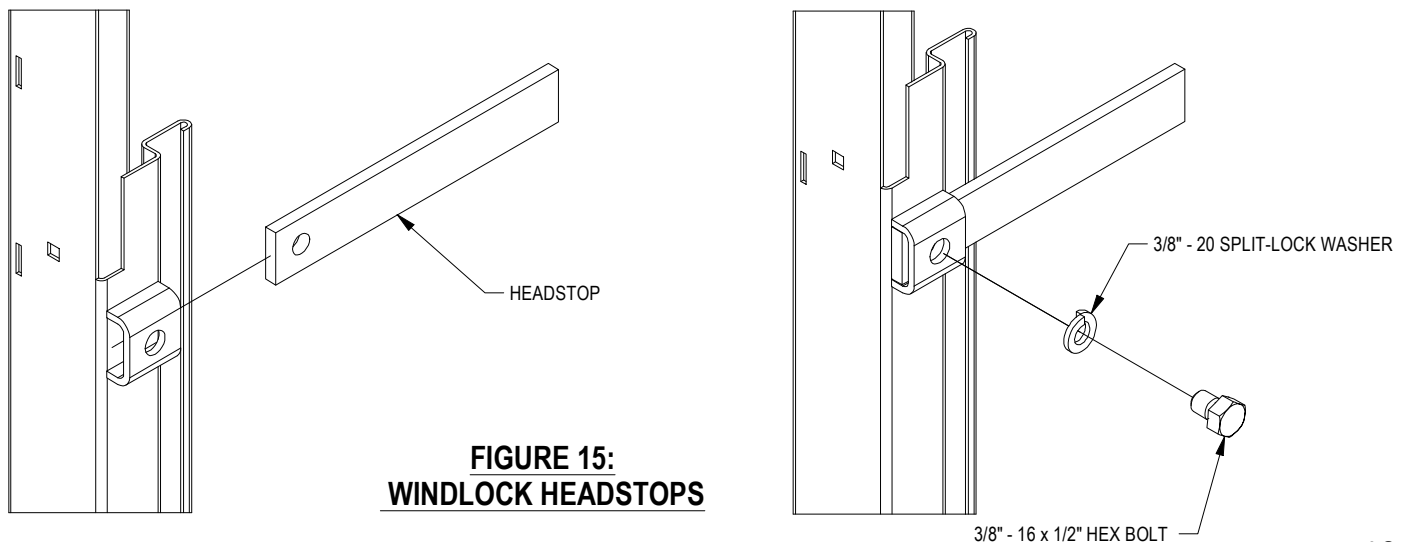

FIGURE 15:
- ▶ Secure each headstop to guide with 3/8" - 20 Split-Lock Washer and 3/8" - 16 x 1/2" Hex Bolt. **See Figure 15**.